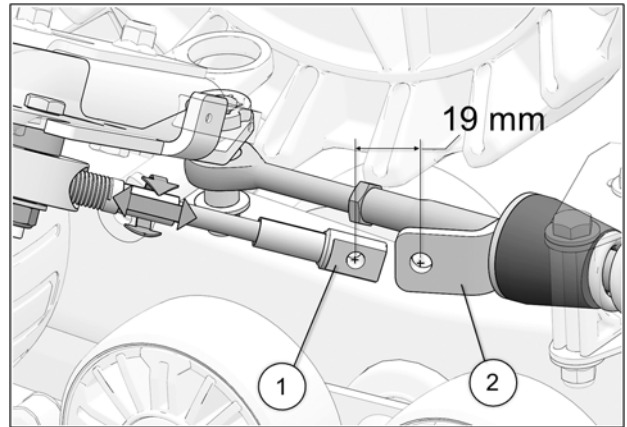

Fig. 20
14. Turn the vehicle's steering wheel to its maximum point of travel on the left. While maintaining pressure on the steering wheel, turn threaded rod to adjust length of cable. See Fig. 20
15. Position cable end hole (1) 19mm [³/₄ in.] short of support plate (2) mounting hole. See Fig. 20